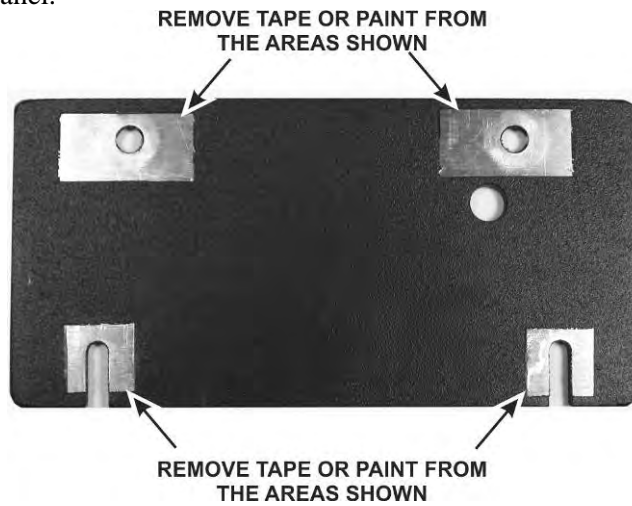

Figure 37. Preparing the Right Side Panel for Mounting.
Position the left side panel on the front panel assembly and install the two knurled nuts as shown in Figure 37. The knurled nuts must be installed first to ensure the nuts fit properly into recessed openings and contact the bare metal. Note that the knurled nuts have slots on the side facing away from the panel. You can tighten the nuts with a small screwdriver or other tool pressed gently in the slot. Take care to avoid scratching the paint.
- Unwrap the right side panel and clean it as needed (see Figure 37). The paint is **not** removed from any areas on the outside of this panel.